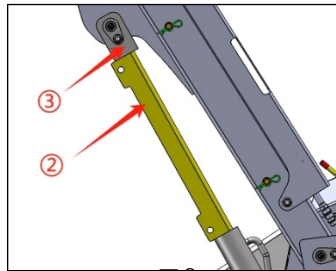

图 2
Step 2: Lift the lifting arm to the highest position and install the safety brace on the lifting cylinder rod ③. (As shown in Figure 2)